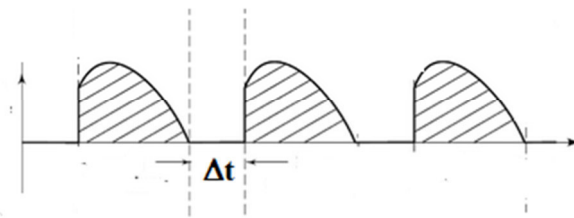

Figure 4.5: Measuring Δt for Single Phase Centertapped Controlled Rectifier
- Measure the value of Δt using cursor option in the oscilloscope as shown in the Figure 4.5.